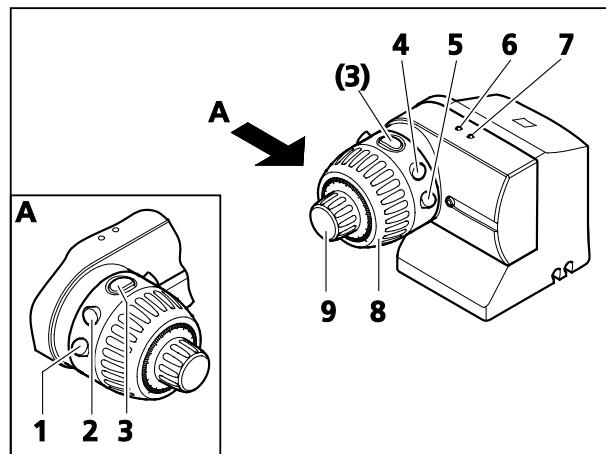

Fig. 27 Control unit on the MaRC
- Control of the focus motor by coarse (Fig. 27/8) and fine drive (Fig. 27/9)
- Travel to zoom clickstop positions by briefly pressing keys 1 and 2 (Fig. 27/1 and 2).
- Quick zoom – press keys 1 and 2 (Fig. 27/1 and 2).
- Quick zoom – press keys 4 and 5 (Fig. 27/4 and 5).
- Save a focus position – key 3 (Fig. 27/3), see also Section 4.2.6, page 42.
- Travel to a pre-saved position – key 3 (Fig. 27/3), see also Section 4.2.7, page 42.
- Reversing rotation of the MaRC unit – key 3 (Fig. 27/3), see also Section 4.2.8, page 42.
- Green control lamp (Fig. 27/6) for visual confirmation of an input or acceptance of a setting (corresponds to acknowledgement signal).
- Blue control lamp (Fig. 27/7) indicates readiness of the MaRC.
If a focus motor ready for operation is connected, the blue LED (Fig. 27/7) will light up.
The focus motor can be controlled quickly or slowly by turning the coarse (Fig. 27/**8**) and fine drive (Fig. 27/**9**).
When key **1** or **2** (Fig. 27/**1** or **2**) is briefly pressed (≤ 200 ms), the zoom body will travel to the next lower or higher clickstop position.
When key **1** or **2** (Fig. 27/**1** or **2**) is pressed for > 200 ms the zoom body will start moving; it will not stop until the respective key is released or the limit position is reached.
When key **4** or **5** (Fig. 27/**4** or **5**) is pressed the motor control will start to move upwards (**5**) or downwards (**4**); it will not stop until the respective key is released or the limit position is reached.
The current focus position will be stored when key **3** (Fig. 27/**3**) is pressed for between 2 and 5 seconds.
The green LED (Fig. 27/**6**) will briefly light up and **one** short beep tone on the motorized focusing system issued to indicate completion of the storing process after 2 seconds.
When key **3** (Fig. 27/**3**) is pressed for < 2 seconds the motor will travel to the stored focus position.
The direction of rotation will be reversed if key **3** (Fig. 27/**3**) is pressed for more than 5 seconds.
While pressing, first of all a **single** beep tone, then **two** tones will be issued and the green control lamp (Fig. 27/**6**) will flash once or twice. This indicates that the reversal has been completed.